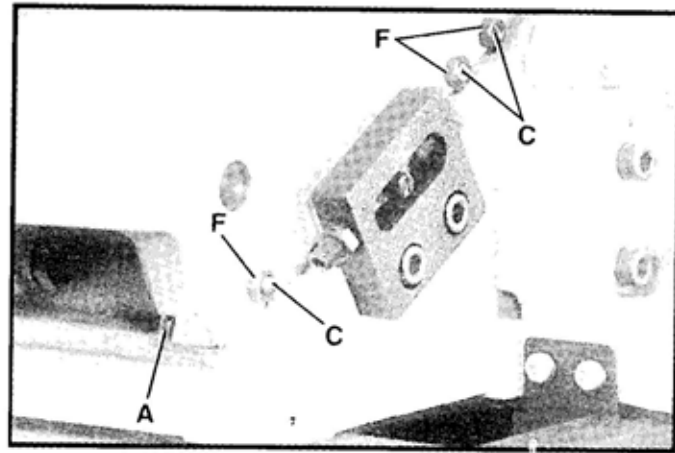

Fig. 46
"Gibs" are provided to take up all play between the mating dovetail ways of the base and the infeed and outfeed tables. The "gib" for the infeed table is shown at (A) Fig. 46, and the "gib" for the outfeed table is shown at (B) Fig. 47. Proper "gib" adjustment is necessary for the correct functioning of the jointer. The "gibs" were adjusted at the factory and should require no further adjustment. If, however, it becomes necessary to adjust the "gibs" proceed as follows:
1. To adjust the infeed or outfeed table "gibs", loosen three locknuts (F) Fig. 46, for the infeed table or two locknuts (G) Fig. 47, for the outfeed table. For the infeed table, make sure the table locking lever is loose. For the outfeed table, make sure the table locking screw (E) Fig. 47, is loose.
2. Tighten or loosen three gib adjustment screws (C) Fig. 46, as necessary for the infeed table or two gib adjustment screws (D) Fig. 47, as necessary for the outfeed table; starting with the lower screw first and as you proceed to the top screw, gently raise the outboard edge of the table that is being adjusted. This will offset any tendency for the table casting to "droop or sag" and permit the gib to be adjusted to a secure fit. After the gibs have been adjusted, tighten locknuts (F) Fig. 46, (G) Fig. 47, table locking screw (E)